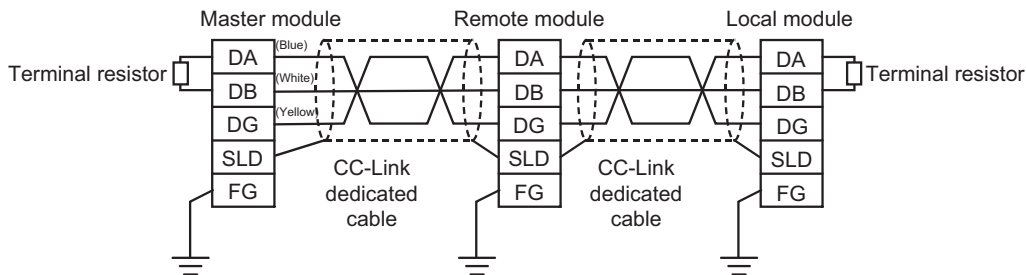

Figure 9.18 Connection between CC-Link module/CC-Link station and FG line inside the control panel. (Simplified figure)
- The CC-Link module, the CC-Link stations and the FG line inside the control panel must be connected at the FG terminal as shown in Figure 9.18.